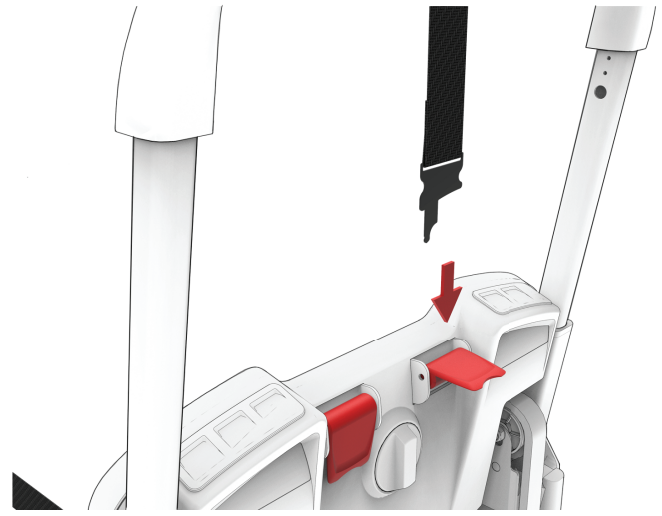

**Figure 22 – Backrest clip to post location**
4. Secure the patient right backrest clip to the patient right backrest post (Figure 22). Pull the backrest clip up until the smaller hole locks in place.